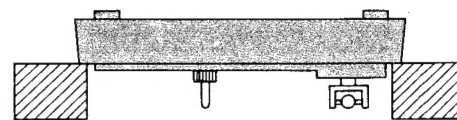

Fig. 1
- (a) Install the turntable in a servicing jig and remove the turntable mat and platter, if installed. Place the turntable upside down to remove bottom cover (Fig. 1).